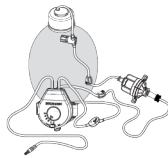

Figure 4
2. Place the compression unit and the bolus so that exit port positioned facing up and the bolus's tubes are positioned upwards (use the bolus's strap to hold it to the unit) and wait until medication flows through the catheter and most of the air bubbles have drained from the set and from the catheter (Note: the set in-line filter automatically drains out any air bubbles remaining in the set tubing) (See Figure 4)